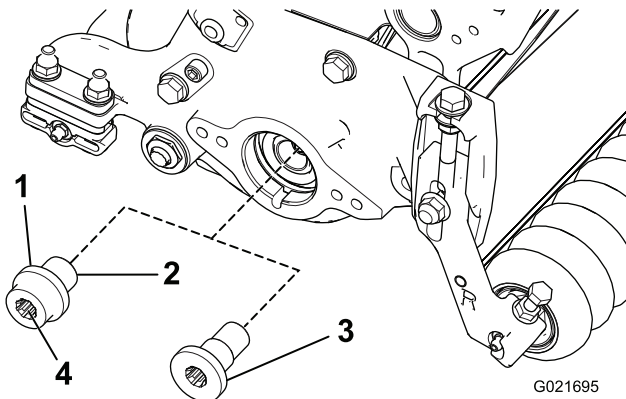

Figure 8
15. Using the reel drive shaft tool, remove the splined insert from the reel motor side of the reel shaft (Figure 8).
16. Install the new (longer) splined drive insert to the reel shaft (Figure 8). Apply 242 Loctite (Blue) to the threads of the insert prior to installation. Torque it to 115 to 128 N-m (85 to 95 ft-lb).
17. Fill the end of the insert with all-purpose grease (Figure 8).
19. Install the new (longer) splined drive insert to the reel shaft (Figure 8). Apply 242 Loctite (Blue) to the threads of the insert prior to installation. Torque it to 115 to 128 N-m (85 to 95 ft-lb).